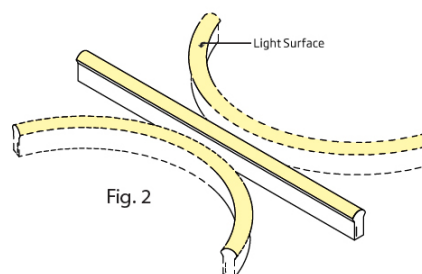

Fig. 2
- Do not bend the fixture in the opposite direction of its specified bending direction (Fig. 2, 4). Doing so will damage the internal circuit board.